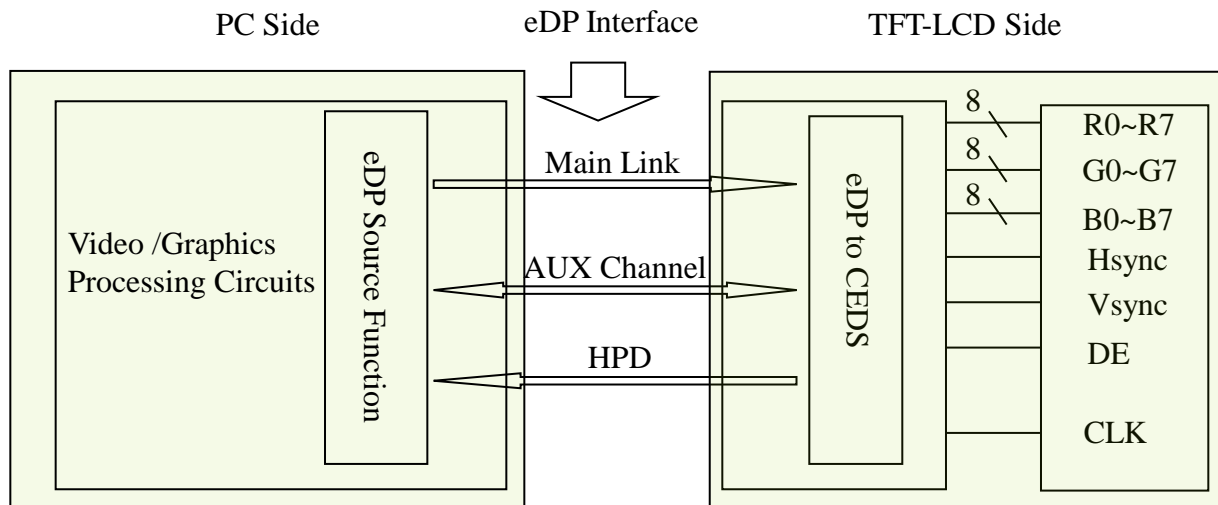

Figure 12. eDP Interface Architecture
9. The grays are 186 gray level and 0 gray level. In each case, the luminance measurements are to be taken while the respective test patterns are displayed. (See Figure 12).